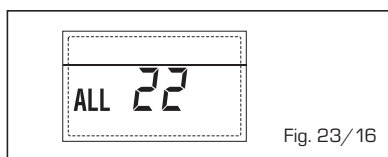

Fig. 23/16
– **ANOMALIA GUASTO Sonda MANDATA SECONDA ZONA MISCELATA “ALL 23” (fig. 23/17)**